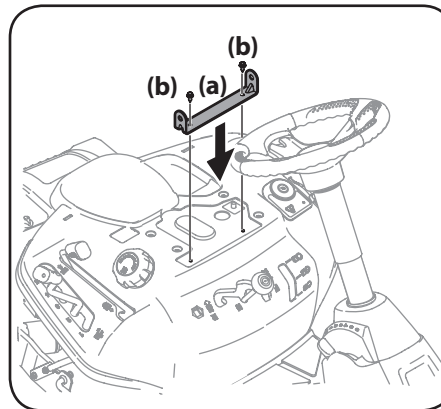

Figure 2-7
3. Align the seat bracket (a) in place over the holes from where the self-tapping bolts (b) were removed, as shown in Figure 2-7.
4. Using a $\frac{1}{4}$ " drive ratchet with a $\frac{3}{8}$ " socket, secure the seat bracket (a) with the self-tapping bolts (b) removed in step 2. See Figure 2-7.